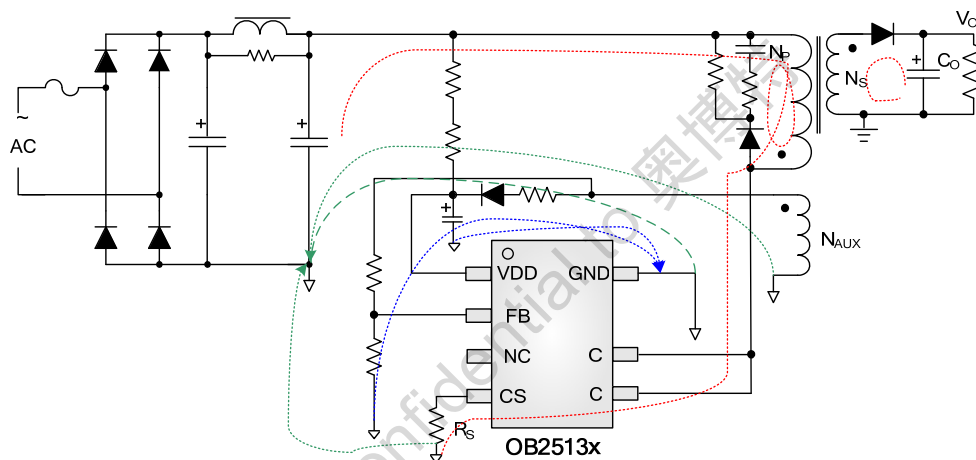

Fig.5 Flyback Schematic with OB2513x
**The Area of Power Loop:** The area of the main current loop should be as small as possible to reduce EMI radiation, such as the primary current loop, the snubber circuit and the secondary rectifying loop (Red wire as shows in Fig.5). Drain pin increases the copper area of the drain terminal for heat dissipation (Green region as shows in Fig.6). And the PCB trace must be wide and short for thermal consideration.